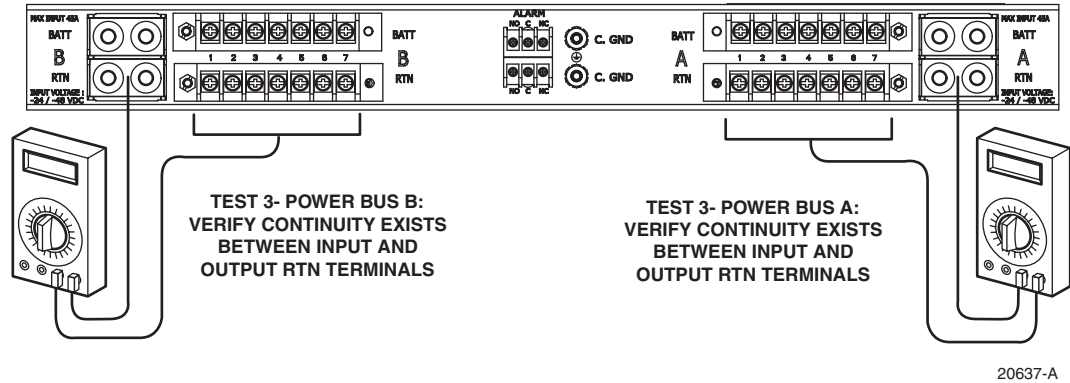

Figure 9. Test 3: Input Return to Output Return
1. Starting at bus A, connect the negative test probe to the RTN input power terminal and the positive test probe to the RTN output power terminal for circuit 1 (Figure 9).